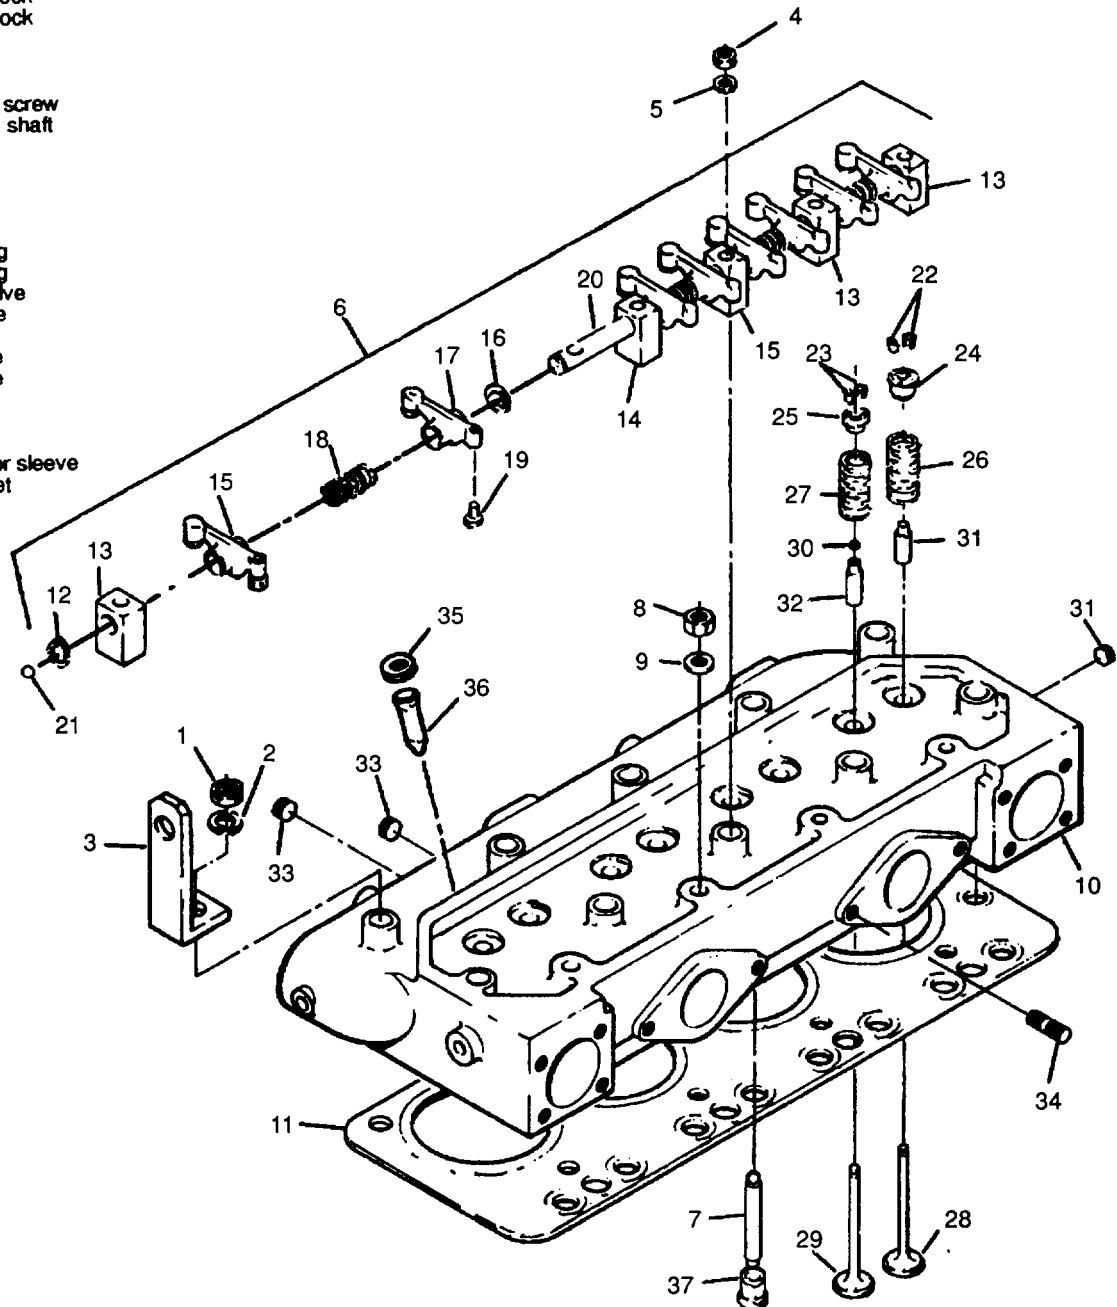

Figure 3-46. Cylinder Head and Rocker Assembly, Exploded View
- (1) Refer to the Operator and Unit Maintenance Manual and remove the air cleaner assembly, muffler and exhaust pipe assembly, intake manifold, exhaust manifold, coolant control thermostat, and injector nozzle holder assemblies.
- (2) Remove nuts (1, figure 3-46) and lockwashers (2) to remove lifting eyes (3).
- (3) Remove nuts (4) and washers (5) to remove rocker arm assembly (6) and push rods (7).
- (4) Remove nuts (8) and washers (9).
- (7) Remove screws (1) and lockwashers (2) to remove camshaft (5).
- (8) Remove valve tappets (35, figure 3-46).